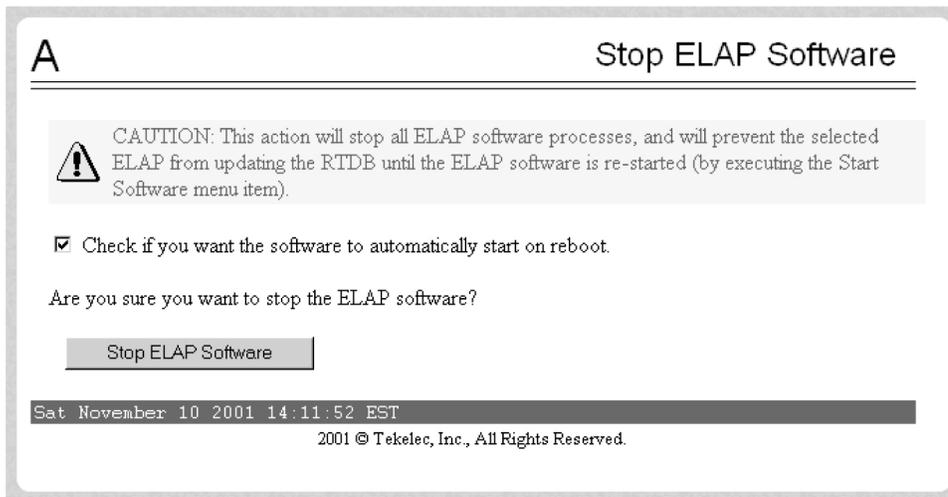

Figure 80: Stopping Software on the ELAP GUI
3. From the ELAP GUI menu, select **Process Control** ► **Stop Software** to ensure that no other updates are occurring. The screen shown in Figure 80: Stopping Software on the ELAP GUI displays. Click the **Stop ELAP Software** button.